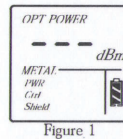

Figure 1
- (1) Couple the measuring unit and the loop-back unit together.
- (2) Hold down the light button ⑤ for longer than two seconds to turn the power on.
- (3) Press the mode button ④ to place the cable checker in power measurement mode (See Figure 1).
- (4) Press the measurement button ③.